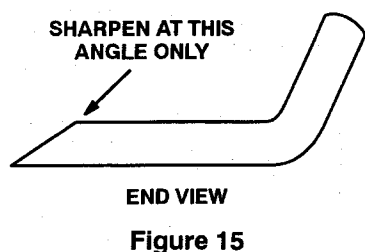

Figure 15
3. Inspect cutting edges of all blades. Sharpen the cutting edges if they are dull or nicked. Sharpen only the top of the cutting edge and maintain the original cutting angle to make sure of sharpness (Fig. 15). The blade will remain balanced if same amount of metal is removed from both cutting edges.